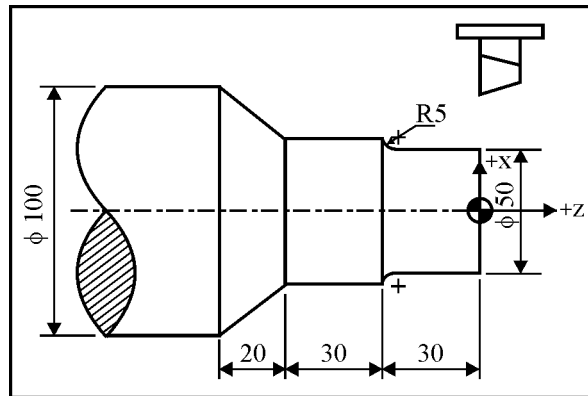

Fig. 1
- (a) Develop a part program to manufacture a component as shown in Fig. 1 on a CNC lathe machine